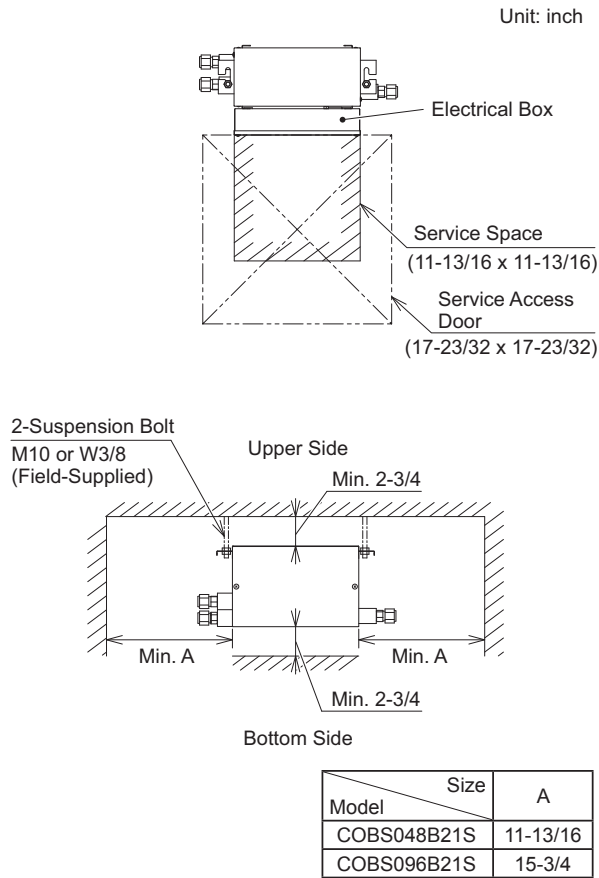

Figure 4.1 Maintenance Space
- Install the Change-Over Box with a proper clearance around it for maintenance working space, as shown in Figure 4.1 below.